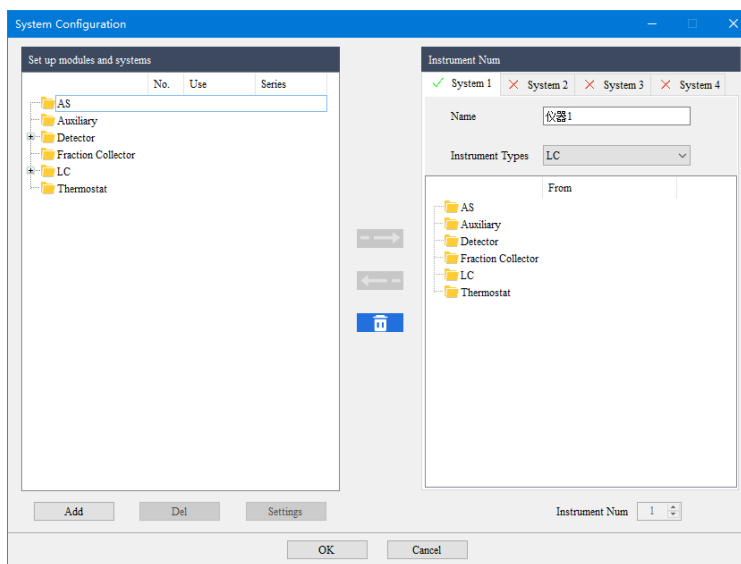

Fig.3-8 Configuration Interface 02
2) The system configuration interface is displayed. As shows in Fig 3-8: